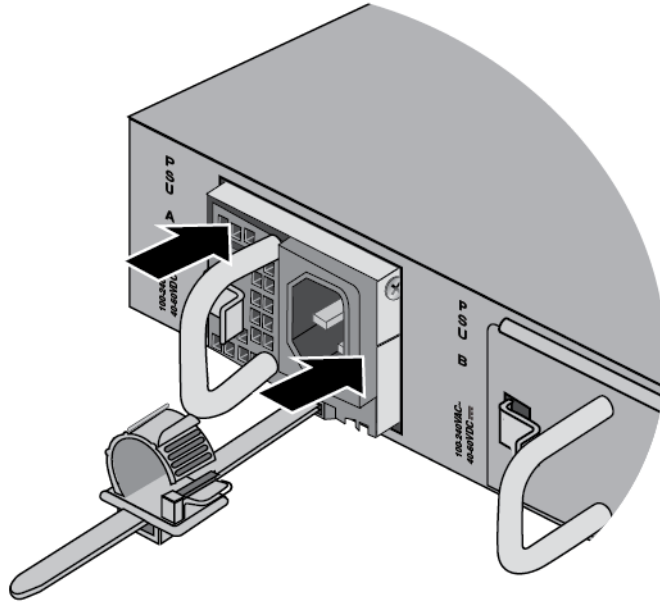

Figure 39. Seating the Power Supply on the Internal Connector
4. When the power supply makes contact with the connector inside the switch, gently press on its faceplate to seat it on the connector. Refer to Figure 39 on page 89.